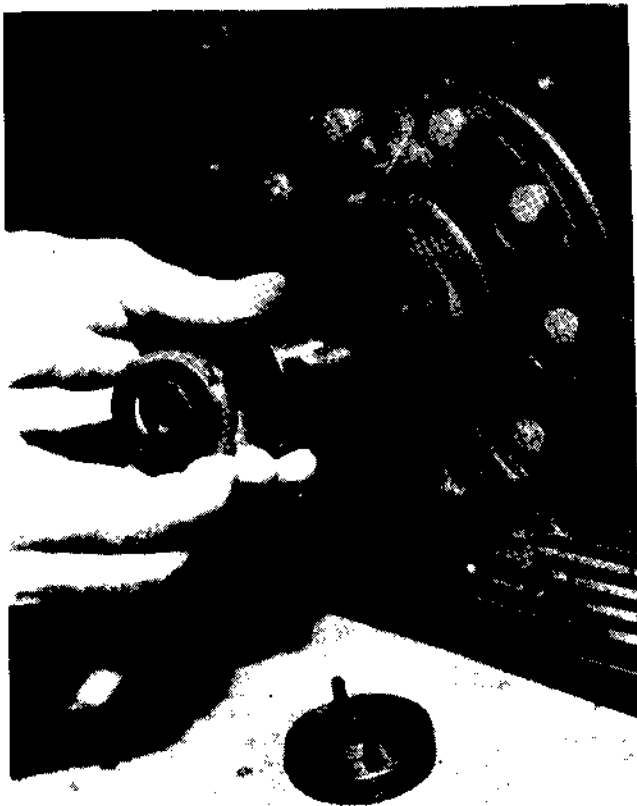

Figure 53
5. Remove the oil pump assembly from the bearing head (Figure 53).